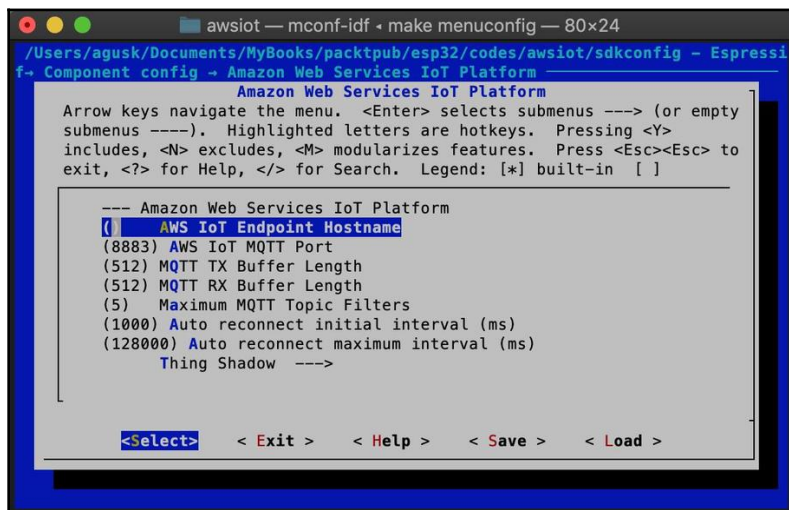

Figure 10.14: Filling the AWS IoT server endpoint
14. You should get a form that is similar to the one shown in *Figure 10.14*: